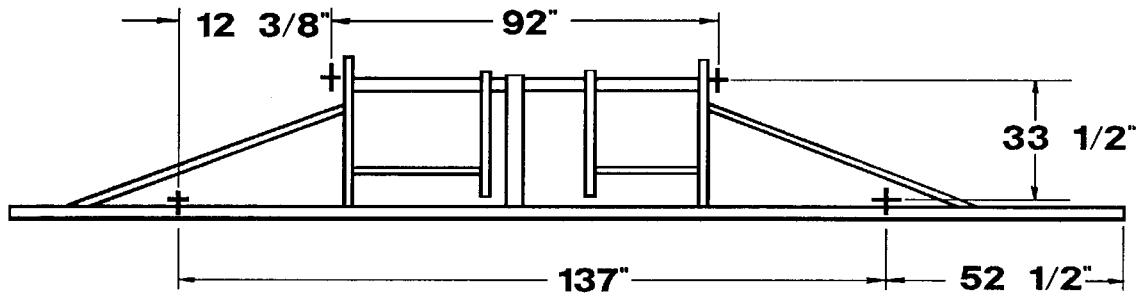

FIG 3-1
1. Set up mill on firm footing and level by eye before operating. The mill should be secured to the floor or platform or tied down to footing to avoid any creep after prolonged use. Spacing for footings is indicated in **Figure 3-1**.